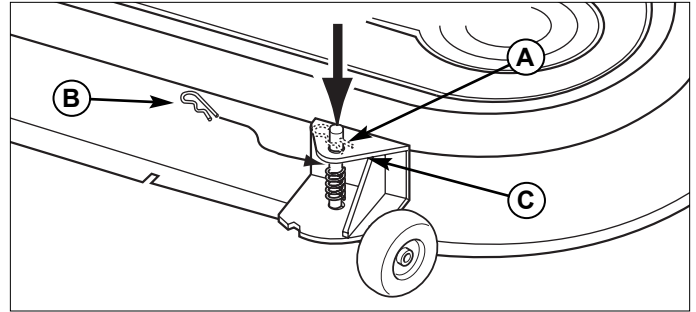

Figure 37. Gauge Wheel Adjustment
1. Remove the hair pin clip (A, B, Figure 37).
2. For upper position, install the pin (A) through the spindle above the bracket (C). For the lower position, push down on the top of the spindle, and install the hair pin clip (B) below the top of the bracket (C).